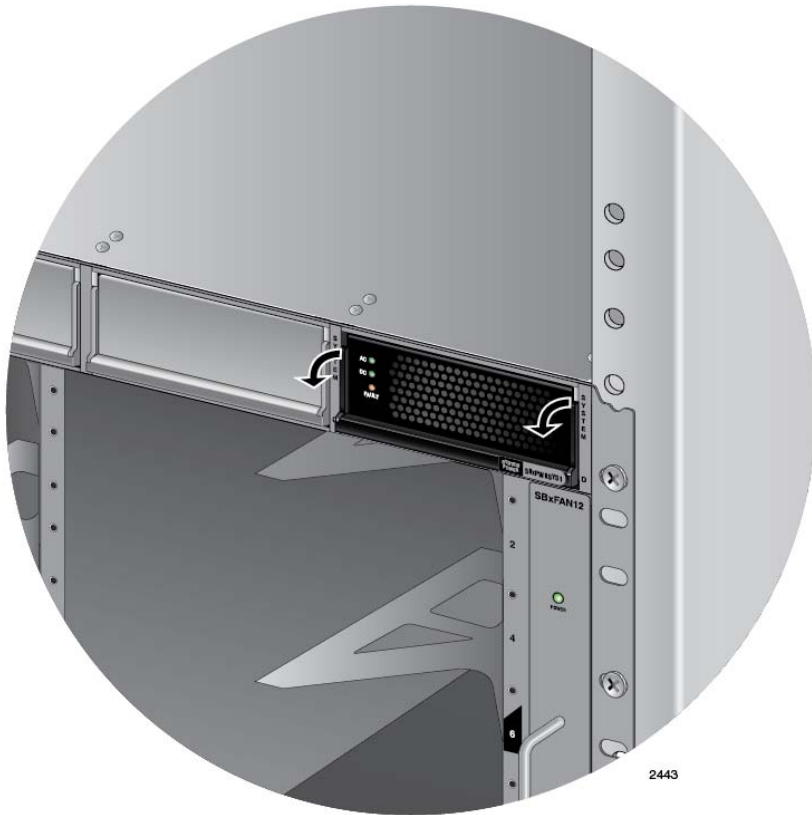

Figure 49. Lowering the Handle on the AT-SBxPWRSYS1 Power Supply
7. Lower the power supply locking handle to secure the power supply to the chassis, as shown in Figure 49.